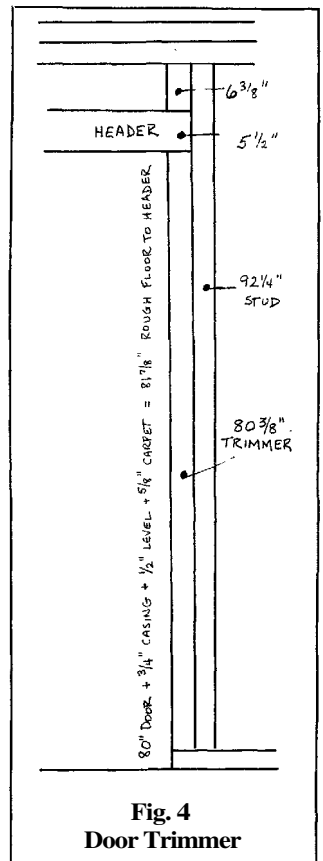

Fig. 4 Door Trimmer
• **Door Trimmers:** Check the floor schedule. Here it calls for carpeting over the platform. Fig. 4 shows an 80 3/8" trimmer set on the soleplate, which allows 80" for the door, 3/4" for the casing, 1/2" for leveling, and 5/8" for the carpet. Cut 10 trimmers for the five doors.